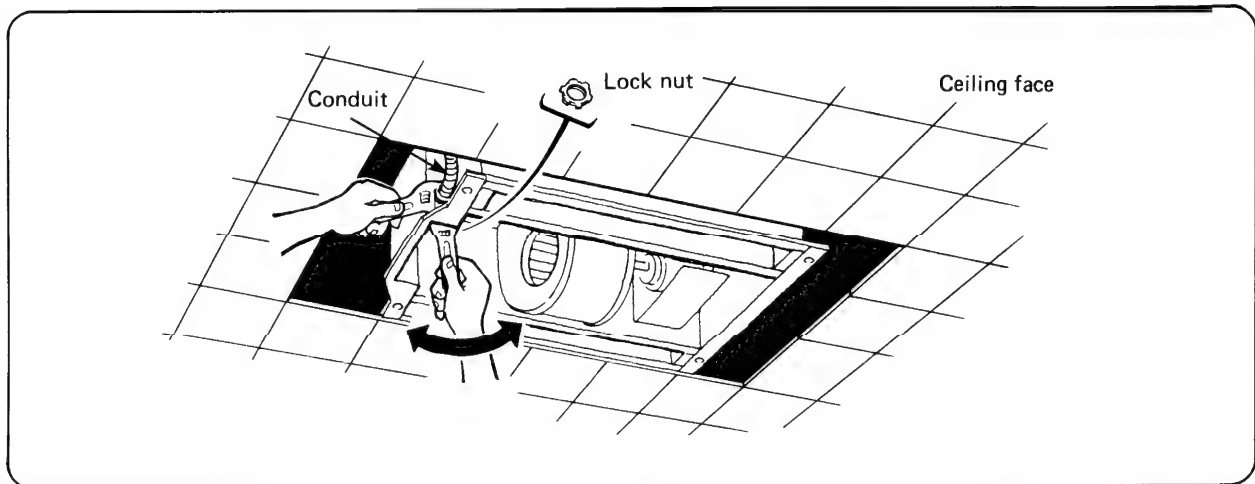

Fig. 15
- d) Secure the conduit connector to the electrical component box with a lock nut. Fig. 15